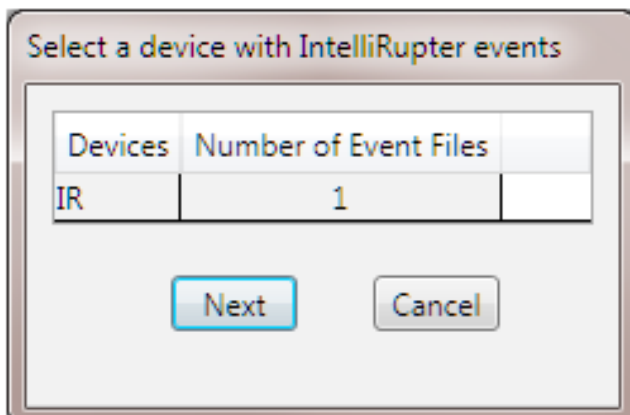

Figure 11. The Device Selection dialog box.
STEP 5. Select a device and click on the **Next** button. See Figure 11.